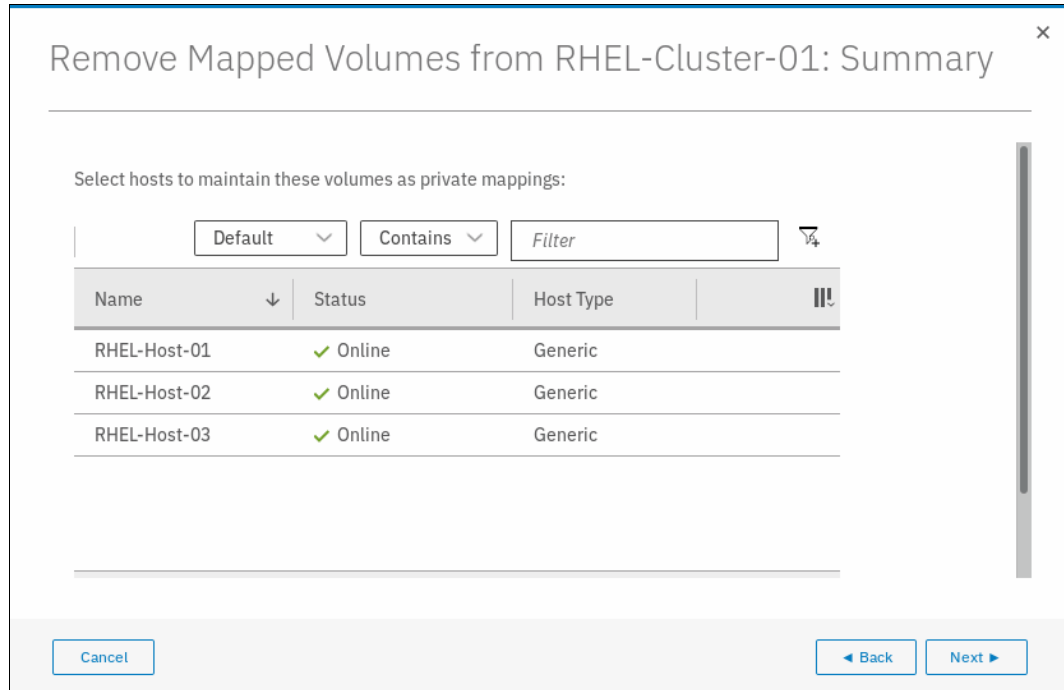

Figure 5-94 Host cluster member list
5. Click **Remove Volume Mappings**. A summary window in which the hosts are listed opens, as shown in Figure 5-94.